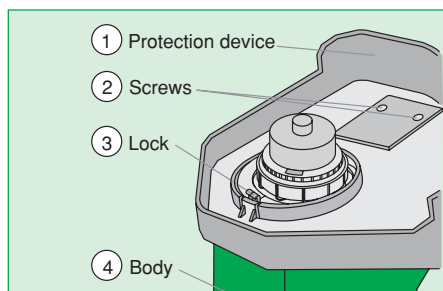
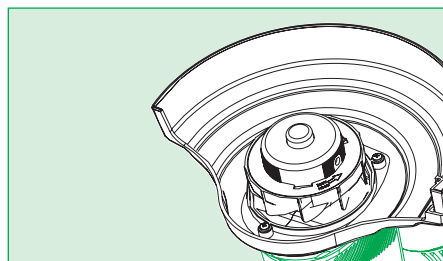

Fig. 1
Fig. 2
- ✓ TRAPP lawn mowers/trimmers are already assembled when delivered with the exception of the protection device. It is conditioned together with the equipment in the same package. To assemble it, turn the lawn mower/trimmer upwards (Fig. 1)
- ✓ Place the protection device as per drawing, and fit it in lock (3) (Fig. 2). Press it to the body (4), put screws (2) in position and tighten them (Fig. 1).